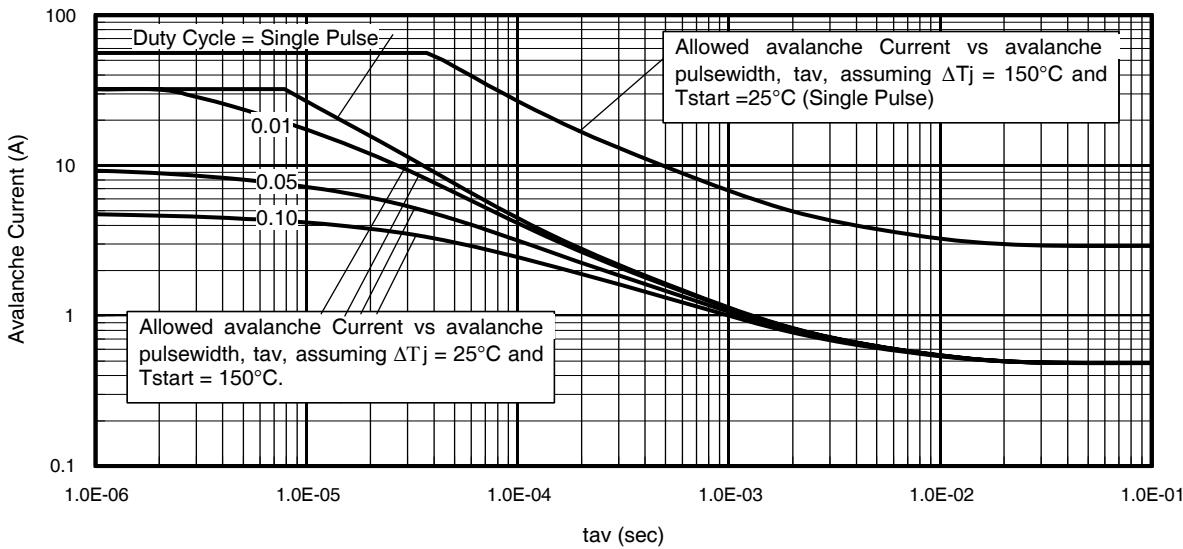

Fig 14. Typical Avalanche Current vs.Pulsewidth
Notes on Repetitive Avalanche Curves , Figures 14, 15:
7.  $\Delta T$  = Allowable rise in junction temperature, not to exceed  $T_{jmax}$  (assumed as  $25^\circ\text{C}$  in Figure 14, 15).